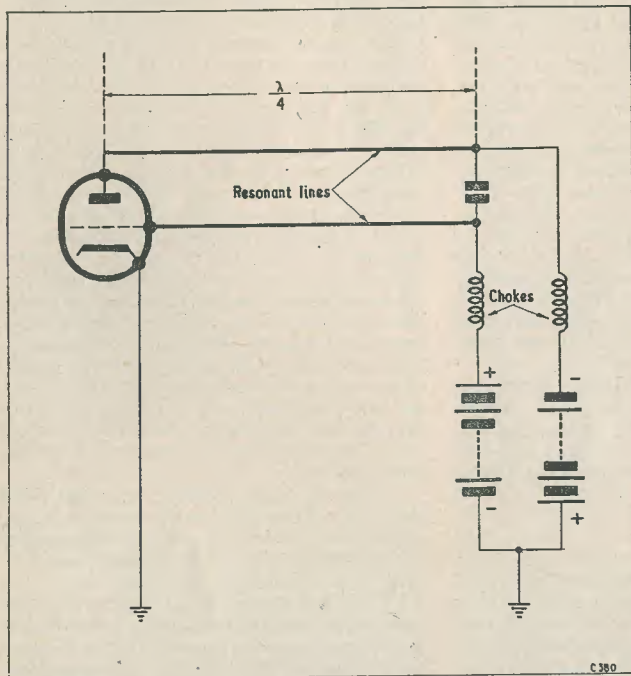
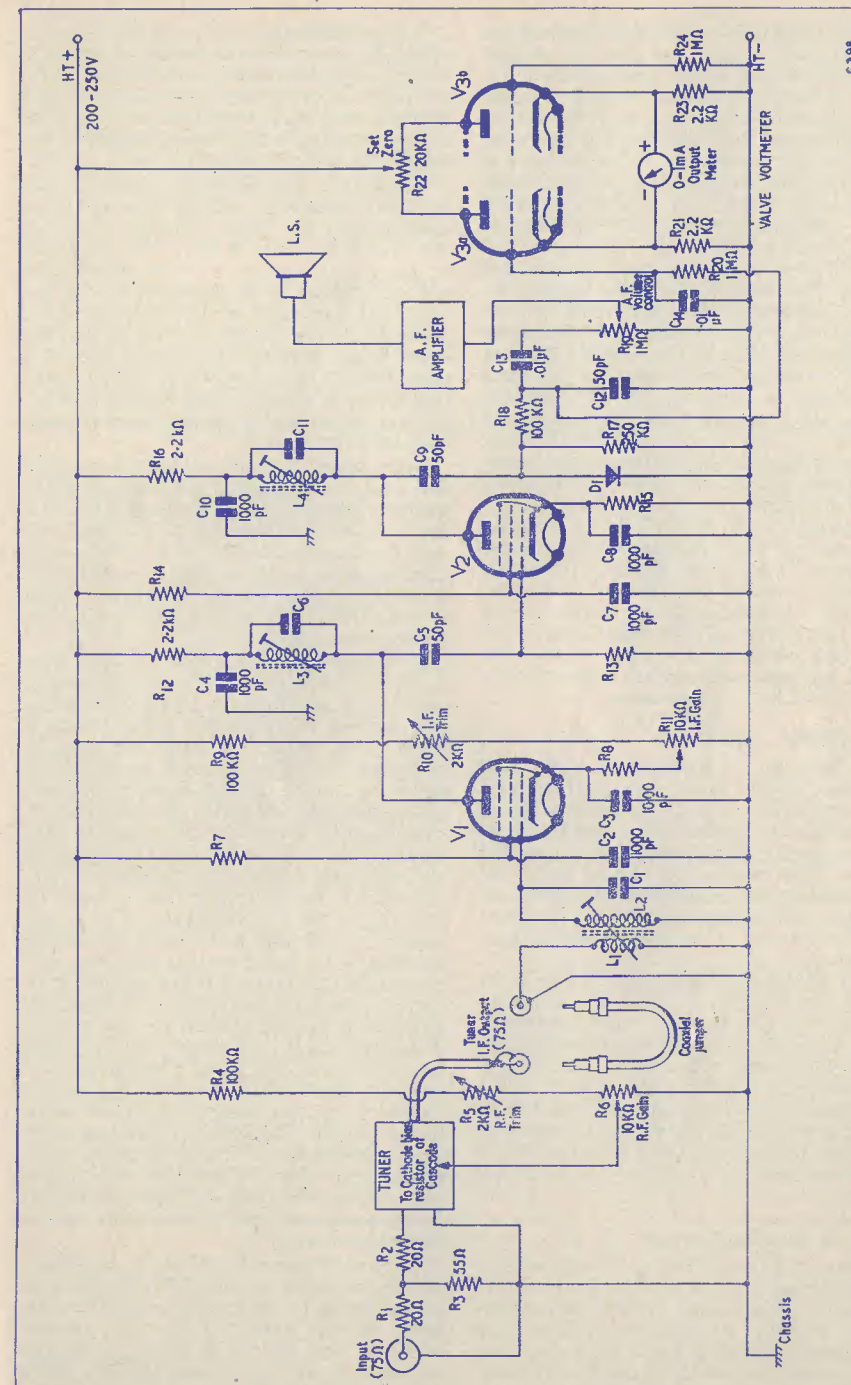

Fig. 1. One of the basic forms of the Barkhausen - Kurtz oscillator
Fig. 2. A practical circuit for a home-built field strength meter.
"It is possible to take advantage of this movement of electrons in the triode by coupling a tuned circuit to the valve in the manner shown here." Smythy scribbled some circuits on a piece of paper. "But, since the movement of electrons in the triode is so very fast, it is only possible to get results if the tuned circuit resonates at a very high frequency. When the Barkhausen-Kurtz oscillator was originally developed, the tuned circuits employed usually consisted of a pair of resonant lines, or Lecher lines, cut to a quarter of the wavelength required, and running parallel to each other. In this sketch (Fig. 1) the resonant lines are connected to the anode and grid; and in this (Fig. 2) to anode and cathode. The anode and cathode connection is the better because these two electrodes are more truly in antiphase so far as the movement of electrons in the valve is concerned. But the anode and grid arrangement was, so far as I remember, more popular in the days when the circuit was used, probably because of the difficulty at that time of keeping a cathode really efficiently isolated from earth potential at high frequencies.
Fig. 2. Another form of the Barkhausen-Kurtz oscillator, in which the tuned circuit formed by the resonant lines is connected between anode and cathode of the triode
One of the basic methods of measuring field strength employs the arrangement illustrated in Fig. 1 (a). In this diagram a non-a.v.c. controlled receiver connected to an output meter is switched to the aerial employed for the test, and is tuned in to the desired signal. Its gain control is adjusted to give a certain reading on the output meter. The receiver is then switched from the aerial and coupled into the output of the signal generator. This is set to the same frequency as the desired signal, and its attenuators adjusted until the receiver output meter gives the same indication as it did with the signal. The strength of the signal is then equal to that of the signal generator output, the latter being read off its attenuators. This process makes the reasonable assumption that the receiver does not drift in frequency or gain whilst being switched from the aerial to the signal generator. It is also assumed that the impedances of the receiver input, the signal generator output, and the aerial are all equal. This latter is a factor which is not always so easy to ensure as it may appear at first sight. However, the inaccuracies given by mismatching may usually be alleviated somewhat by inserting resistive pads between points where impedance is doubtful, and allowing for the attenuation given by these in final calculations.
The arrangement shown in Fig. 1 (a) gives reliable results; but individual readings take a little time to carry out. A slightly quicker method is illustrated in Fig. 1 (b). In this diagram a calibrated attenuator is fitted to the receiver (normally at its input, as shown in the diagram). The receiver is tuned to the desired signal, after which its input is transferred to the signal generator, this being set to give an output of standard amplitude. The receiver gain control is next adjusted so that a certain output reading is given when the attenuators are set to a reference figure of, say, zero db. The receiver is then returned to the aerial and the attenuator readjusted until the same level is shown by the output meter. The strength of the input signal (as compared with the standard output of the signal generator) can then be read off the receiver attenuators. The advantage of this second method of reading signal strength is that the signal generator has to be referred to only at the beginning of a series of readings on a single frequency.
Most commercial field strength meters employ the arrangement shown in Fig. 1 (b), in which the attenuators are integral with the receiver. A source of standard signal strength is also provided in the same cabinet, this sometimes being obtained from a noise generator, or similar device.
From the amateur point of view the provision of attenuators and a source of standard signal strength raise difficulties. Firstly, it is not easy to obtain reliable attenuators (reliable, incidentally, at Band III as well as Band I) which are calibrated in db's. Secondly, the provision of a source of constant signal cannot be constructed with any certainty without access to laboratory equipment. For this reason, the writer suggests that, from the home-constructor viewpoint, the arrangement shown basically in Fig. 1 (c) would provide quite a good compromise between cheapness and a high degree of absolute accuracy. If carefully made, the accuracy of the equipment shown in this diagram should not fall too far short of that given by much more expensive laboratory-type instruments. These, incidentally, would give no greater usefulness, so far as comparative readings were concerned, than does the simple device we are considering.
The idea behind the device shown in Fig. 1 (c) is that, when it is required for checking absolute values of signal strength, it is connected to the aerial and tuned in to the desired signal. With the i.f. gain control set to maximum, the r.f. gain control is next set to give a pre-arranged reading on the output meter. The signal strength is then read off the dial of the r.f. gain control, this having been previously calibrated. If the signal is so strong that it cannot be sufficiently attenuated
Fig. 1 (a). A basic method of reading signal strength at an aerial. (b) An alternative method of measuring signal strength. (c) A simple field strength meter, suitable for home-construction, which is discussed in the text.
Fig. 2 gives the basic circuit of a typical home-built f.s. meter using the ideas detailed above. There are several items here which need a little further explanation.
The r.f. and mixer stages in the instrument raise the major difficulty to be encountered. This is due to the fact that a high degree of gain is essential here. Fig. 2 shows a box labelled "tuner" for these stages, the author having in mind such a unit as the Valradio tuner, or a turret tuner. There are a number of manufacturers' surplus turret tuners on the market these days, and provided that the unit chosen employs a cascode and triode-pentode circuit to give the gain needed, one of these might represent a profitable buy in this application. The tuner employed is almost certain to have the cathode bias resistor of the cascode brought out to a separate terminal for connection to a gain control; whereupon the r.f. gain control circuit of Fig. 2 may be used. The gain control values shown in Fig. 2 ( $R_4$ ,  $R_5$  and  $R_6$ ) should, normally, enable sufficient gain to be obtained at the minimum setting without the input signal falling below the noise level of the mixer.
If the sound i.f. strip is not a.v.c. controlled, a valve-voltmeter, or a simple home-constructed equivalent such as is shown in Fig. 2 could be connected across the diode load. The sound i.f. strip can then be employed for signal strength measurements either by tuning in the receiver normally (whereupon the indicating device shows the strength of the incoming sound carrier), or by adjusting the receiver oscillator such that the vision signal is injected into the sound i.f. strip (whereupon the indicating device shows the strength of the vision signal). The second method is preferable when aerial experiments on Band I are being carried out, because it ensures that the aerial is being adjusted at the correct operating frequency. At Band III, however, it might be found that the proportionately small difference in frequency between sound and vision carriers does not make it worth while detuning the receiver oscillator in this manner. (There is the further point, incidentally, that the sound carrier maintains a steady strength during programme hours, whilst the vision signal may vary considerably during such times, it being steady only whilst test cards, etc., are being transmitted).
Finally, it should be mentioned that, when a television receiver is used for signal strength measurements, a resistive input pad, at the aerial socket, such as that given by  $R_1$ ,  $R_2$  and  $R_3$  of Fig. 2, is a desirable adjunct in order to ensure accurate matching.
**R.M.A. 4-dot code.** These are rated as above at 500 volts and are read the same. The dot above the value is the tolerance rating. See Fig. 2.